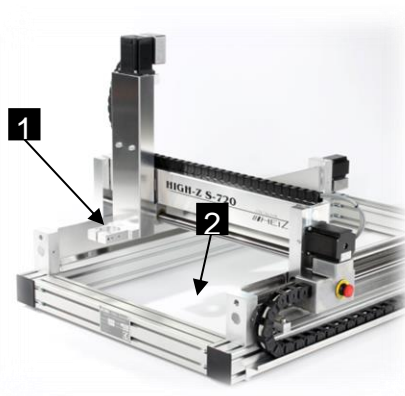

Fig. 18: Working area
- area of the tool holder (Fig. 18/1) (when turned off)
- Range of motion of the axes (Fig. 18/2) (when turned off) in order to clamp work pieces